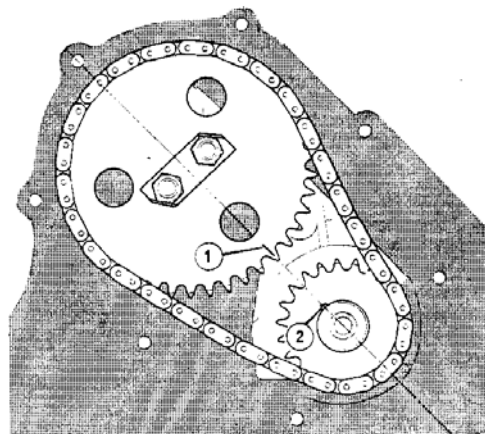

Figure 13 Alignment of camshaft sprocket and woodruff key
3. Ensure that the timing mark, a notch, on the camshaft end aligns with the woodruff key on the crankshaft. (Figure 13)